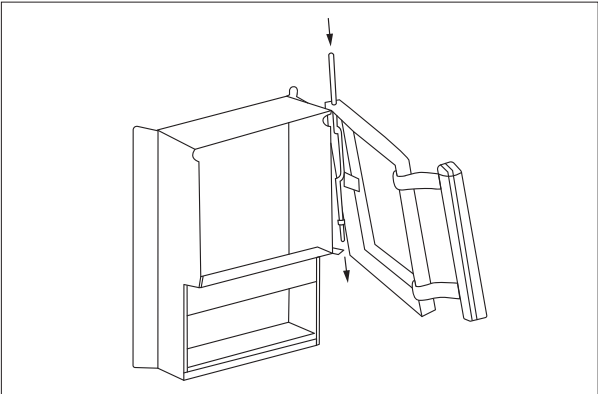

Figure 4.
Figure 4. Open the door and raise the hinge pin up so it comes out of the bottom hinge barrel. Hold onto the door securely and turn the bottom part of the pin and turn the bottom end of the pin up enough (2) that you can pull the pin down (3) and the pin and door come apart. For installation proceed in reverse order. First push the upper edge of the door in its place and thereafter push